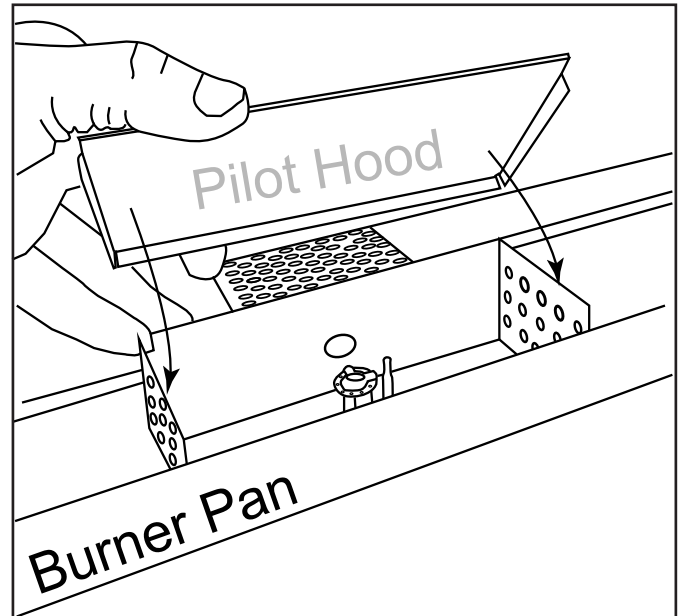

Fig. 31 Pilot hood installing over top of pilot box.
Step 22: Place pilot hood on top of the pilot box and ensure it sits flat, providing ventilation for the pilot at the front edge of the burner pan. See Figs. 31 and 32.
Test fire the fireplace before installing media to ensure flame is passing through igniton hole as shown in Fig. 31. This is a good time to double check for any gas leaks or electrical connections before finalizing the installation by installing the glass media.